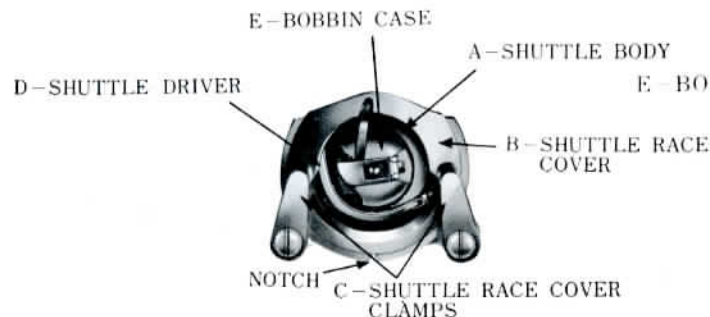

Fig. 57
1. Turn hand wheel until the needle reaches its highest position. The mechanism will assume the position illustrated in Fig. 57. Tilt head back on its hinges.